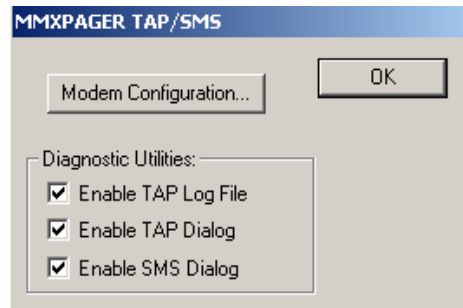

Figure 4.16. Multimedia Pager TAP/SMS Dialog Box
Step 4: Clicking the **General Settings** button launches the **Multimedia Pager TAP/SMS** dialog box, shown in **Figure 4.16**. Under **Diagnostic Utilities**, you can choose to enable the TAP log file, the **Multimedia Pager TAP Diagnostic** dialog box, and/or the **Multimedia Pager SMS Diagnostic** dialog box. The log file is only used for diagnostic utilities (limited to 10 KB).